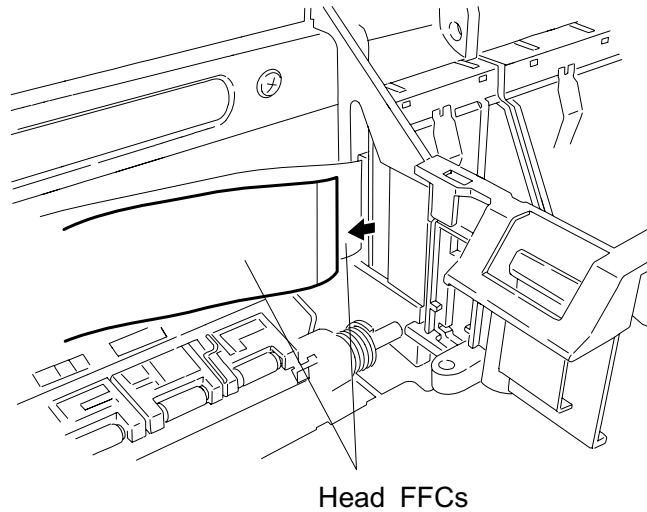

Figure 3-10. Head FFC Removal
6. Remove 2 FFCs from the printheads. (See Figure 3-10.)